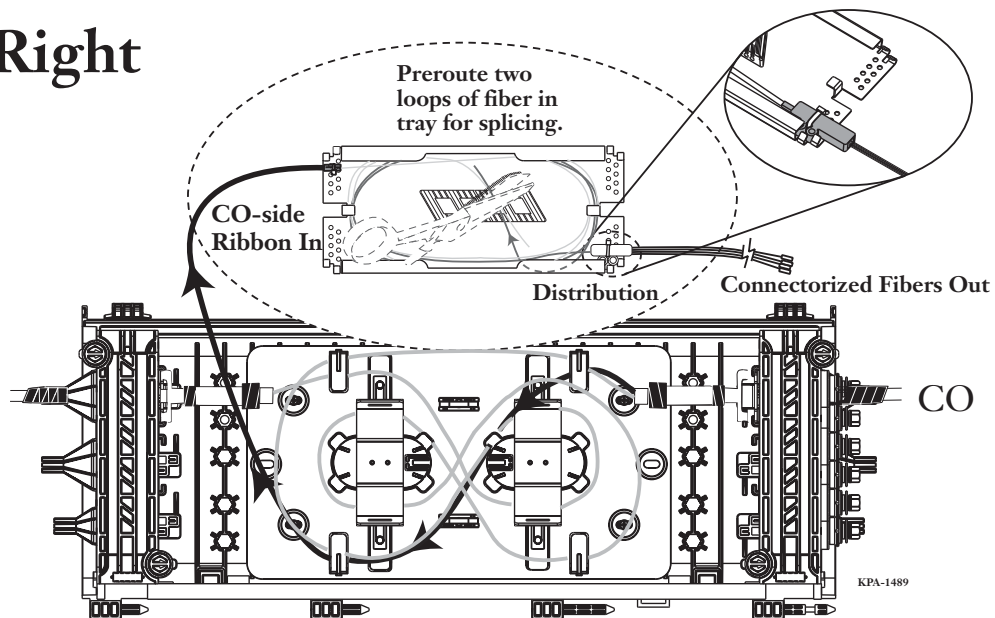

Figure 18 — Secure Fanout to Splice Tray
- Step 6:** Secure the ribbon fanout assembly to the tray in the lower right corner using a cable tie (Figure 18).